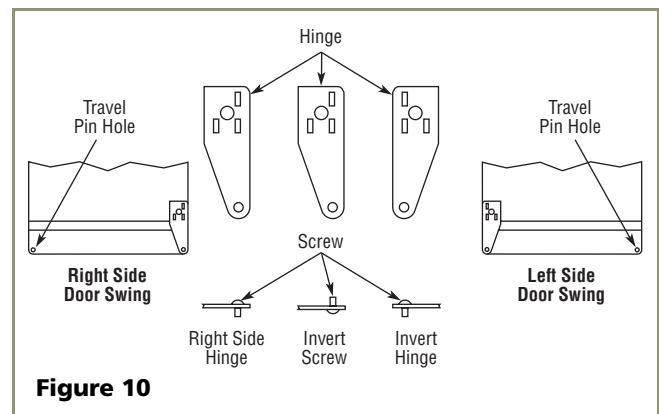

Figure 10
7. Remove plastic travel pin from door handle and relocate on opposite side. See **Figure 10**.
8. Remove pivot screw from top hinge, invert screw and reinstall pivot screw in top hinge. See **Figure 10**.